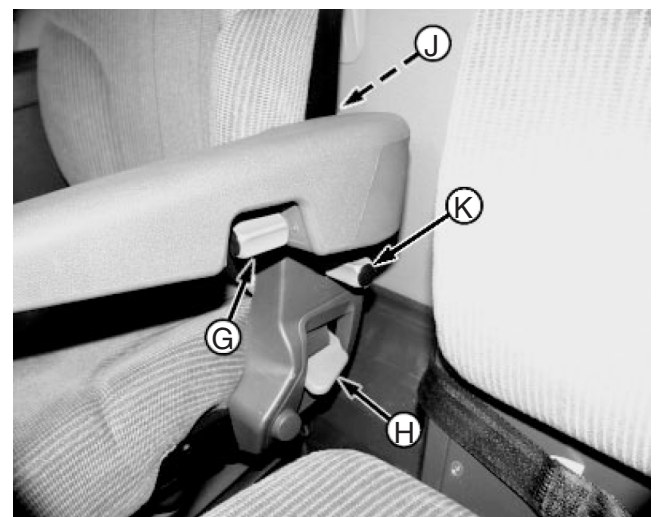

Figure 36. Armrest
To adjust the left-hand armrest (see Figure 36) up or down, use knob (G). Rotate the knob clockwise to lower and counterclockwise to raise.